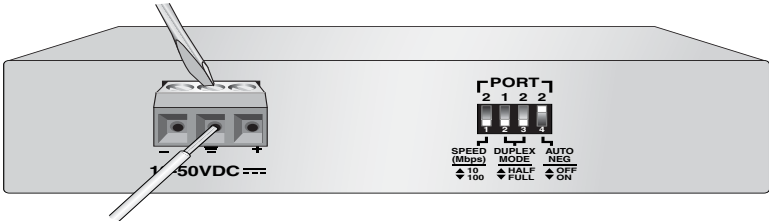

Figure 17 Connecting the Stripped Wire to the 12-50VDC Power Connector
5. Connect the **ground** wire to the terminal marked with the ground symbol by inserting the wire into power connector and tightening the connection with a flathead screwdriver, as shown in Figure 17.